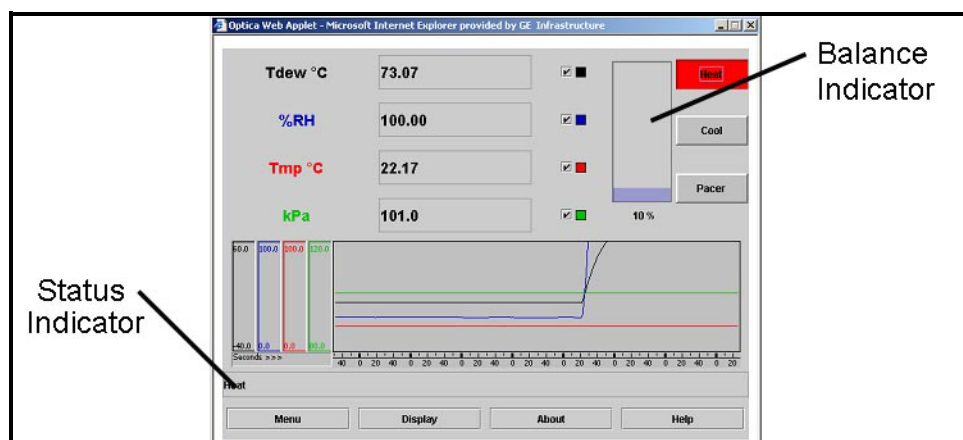

Figure 44: Balance and Status Indicator on Optica Display
- The balance indicator (shown in Figure 44 below) provides a graphic display of how much light is received by the mirror's photodetector. It is also an indicator of the dew layer thickness. This indicator increases and decreases in digital steps.